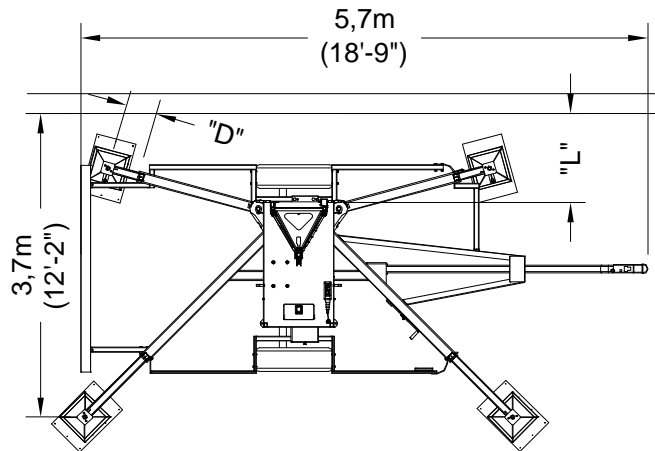

Fig.3
- 1- Measure precisely the "L" distance between the base and the wall, taking into consideration all the obstacles that the platform must go around. (Fig. 3, page II-2)